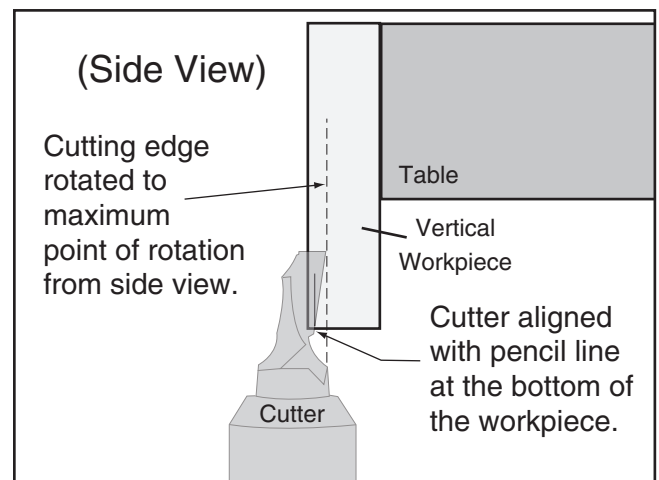

Figure 37. Cutter position for setting tail thickness (as viewed from the side).
7. Unlock the tracer pin, and adjust the thumbwheel as necessary until the bottom of the cutter is positioned as shown in Figure 37.